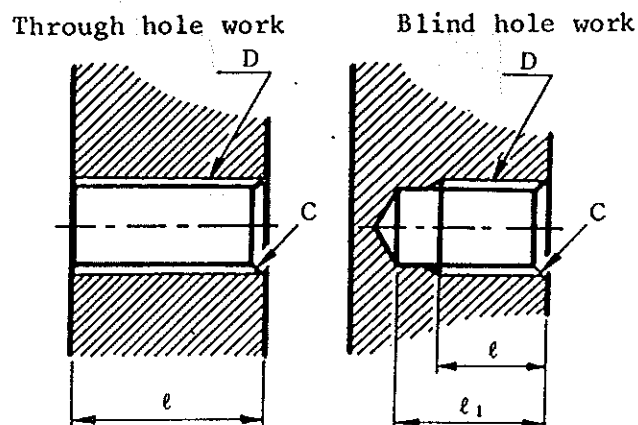

Fig. 5-3
- CHAMFR (C in Fig. 5-3)
- **THRAD** (D in Figure 5-3) Sets the screw type.
■ Nominal diameter (D in Fig. 5-3) Set the nominal size of screw.
■ Pitch and threads/inch (D in Fig. 5-3)
(ℓ in Fig. 5-3)
Blind hole work (ℓ_1 in Figure 5-3)
■ CHAMFR (C in Figure 5-3) Set chamfering size. When chamfering is unnecessary, set the size to 0.